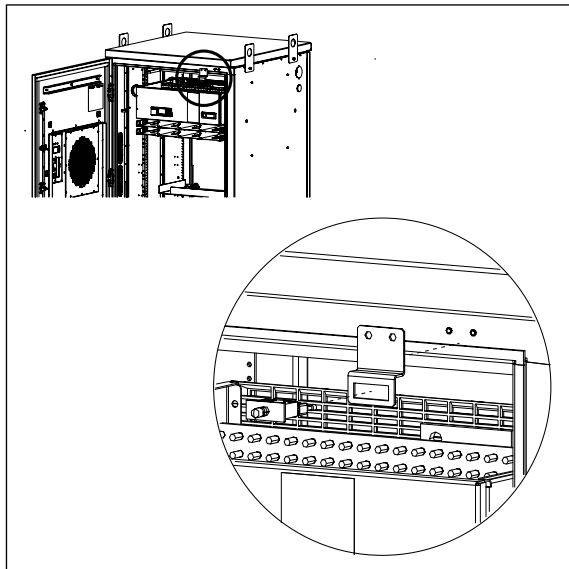
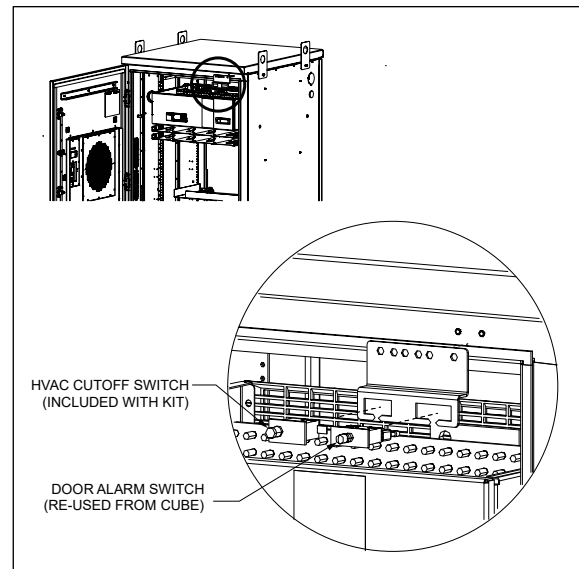

Figure 8 Remove Mounting Plate from CUBE
Figure 9 Attach Kit Mounting Plate
1. Open the front door, verify the breaker for the door lights is off, and remove the intrusion alarm and light wiring from the door intrusion switch by pulling the connectors. Remove the switch from the existing mounting plate (Figure 8). Set the switch aside for re-installation.
3. Push the door intrusion alarm switch (removed previously) into the right side opening in the new mounting plate until it clicks. Push an HVAC 2-wire cutoff switch into the left side opening (Figure 9).
4. Use the two nuts removed previously to mount and secure the new plate onto the same pair of studs that the old plate occupied (Figure 9, studs are on the inside of the door frame). Use mounting hole positions 5 and 6 (Figure 8).